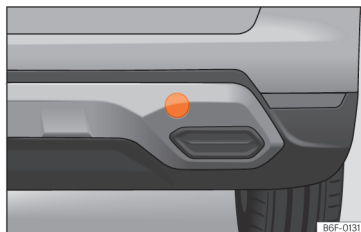

Fig. 165 Rear bumper on right: remove the lid.
The housing of the screw towing eye is on the right side of the rear bumper behind a lid >>> Fig. 165.
- Press the right hand side of the cover >>> Fig. 165 to unclip it.